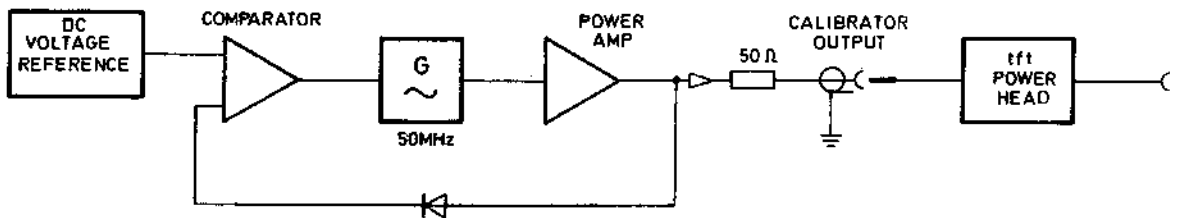

Fig. 2 Block diagram of r.f. calibrator
28. The r.f. calibrator provides three precision power levels of 1 mW, 10 mW and 100 mW at a frequency of 50 MHz. These power levels are programmed automatically depending on which power head is connected. If no power head is connected then the 1 mW output level is produced by the calibrator. The basic schematic of the calibrator, consisting of five main blocks, is shown in Fig. 2.